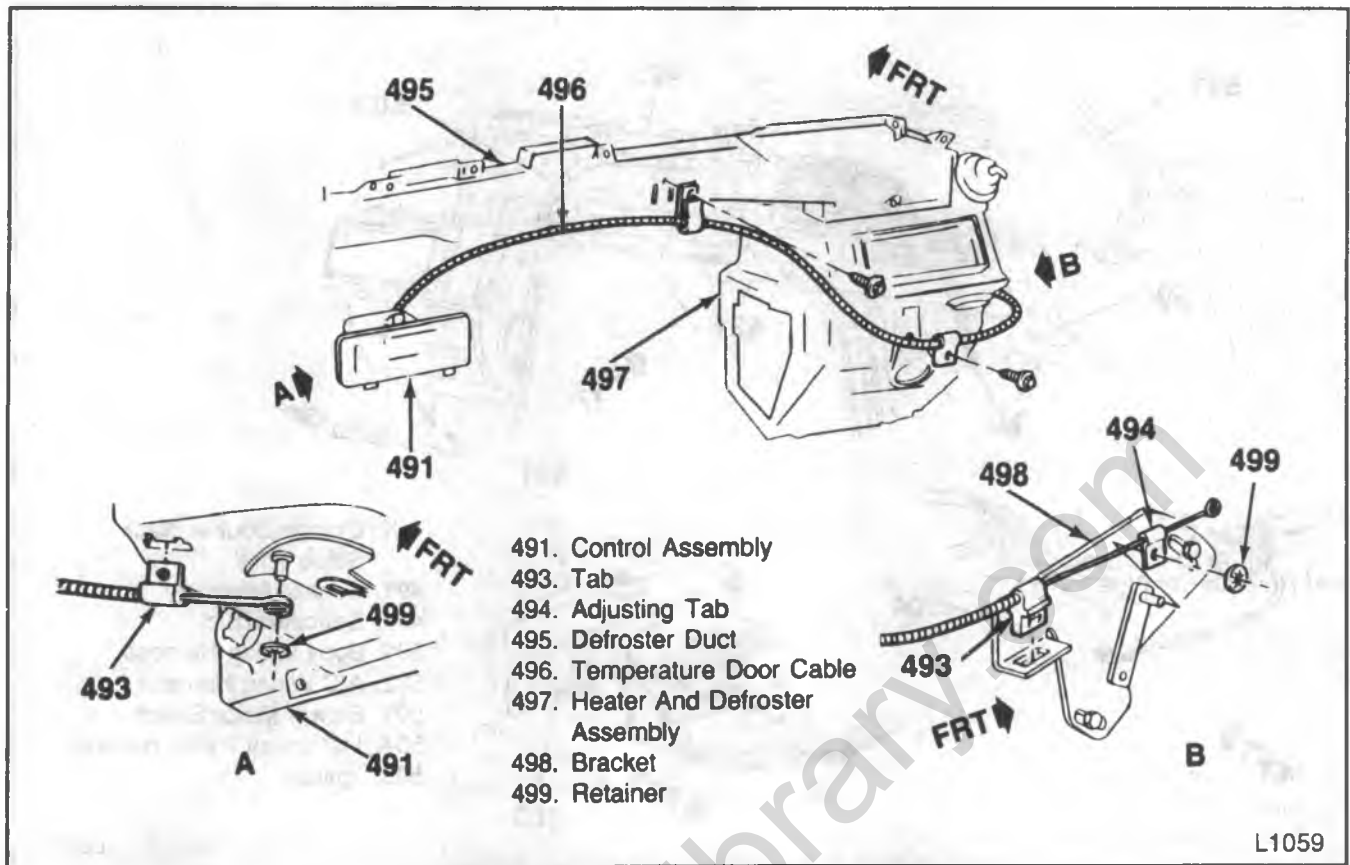
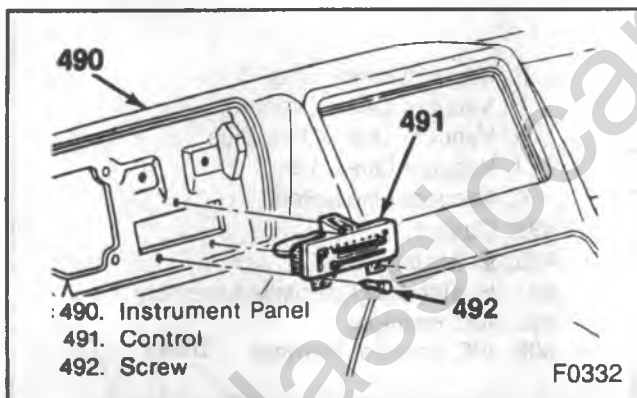

Figure 59—Temperature Door Control Cable
Figure 58—Control Assembly Removal
↔ Remove or Disconnect (Figures 58, 59, 60 and 61)
4. Control assembly screws (492) (figure 58).
5. Control (491).
6. Temperature cable eyelet clip and retainer (499) (figure 59).
↔ Install or Connect (Figures 58, 59, 60 and 61)
Adjust (Figure 59)
Remove or Disconnect (Figures 58, 59, 60 and 62)
Install or Connect (Figures 58, 59, 60 and 62)